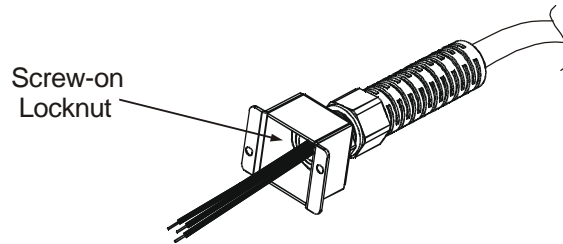

Fig. 3-2: Stripped Wires installed in Strain Relief
- Slide the helix-shaped body onto the AC cable. Insert the stripped wires through the strain relief base until the outer cable jacket is flush with the edge of the base. Tighten (16-18 Lb-inch.) (18 - 20Nm) the body to the base while holding the cable in place. Now the cable is securely fastened inside the strain relief. Refer to Fig. 3-2.